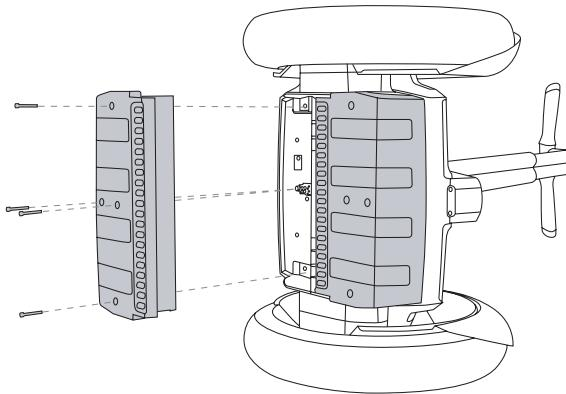

Figure 35. Removing the Batteries
2. Tip the Segway PT onto its side so that the Wheel lies flat against a smooth clean surface. See **Figure 35**.